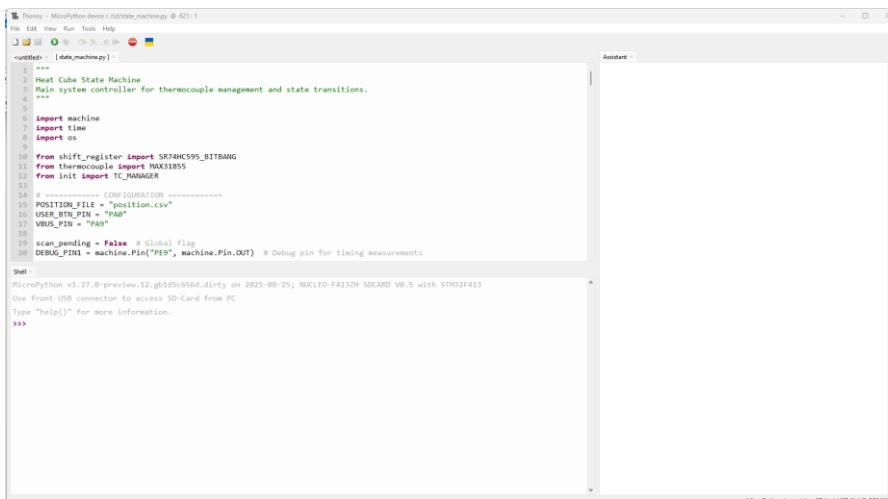

Figure 11: Clicking "OK" when selecting the state_machine.py file.
- Select the **state_machine.py** file, click **OK** and the IDE should then appear as shown in Figure 11.